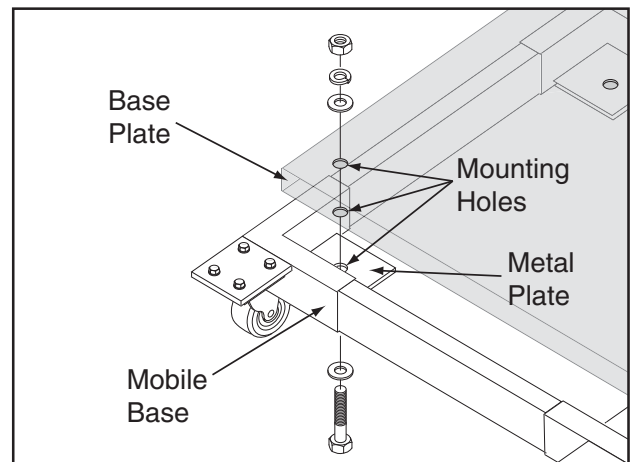

Figure 17. Mounting base plate to mobile base.
6. Secure the base plate to the mobile base with hex bolts, hex nuts, flat washers and lock washers, as shown in **Figure 17**.